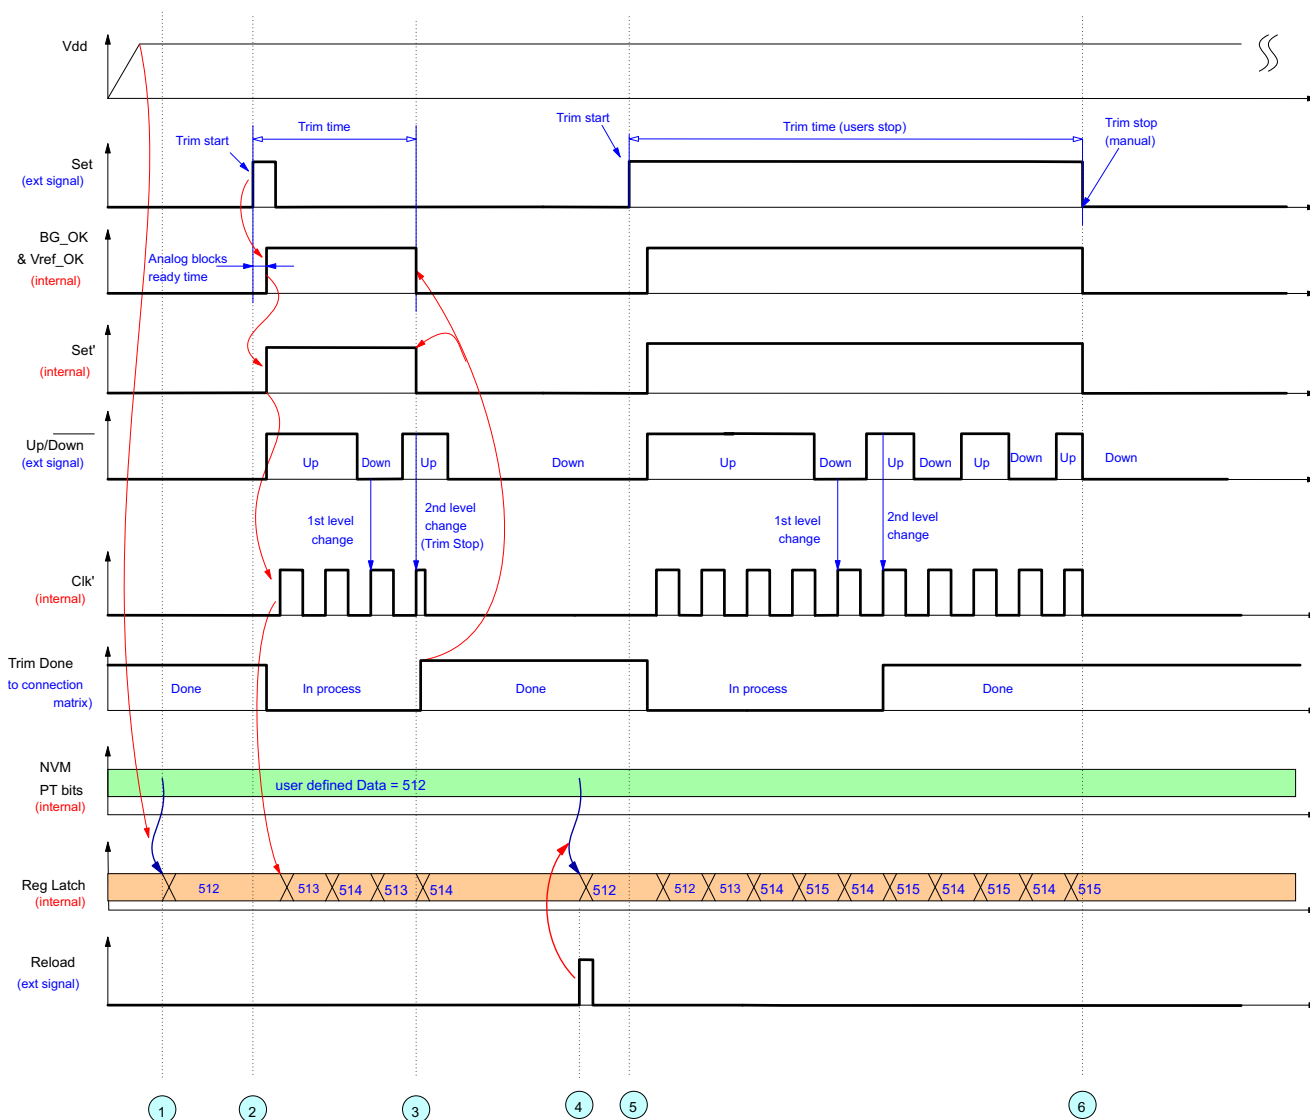
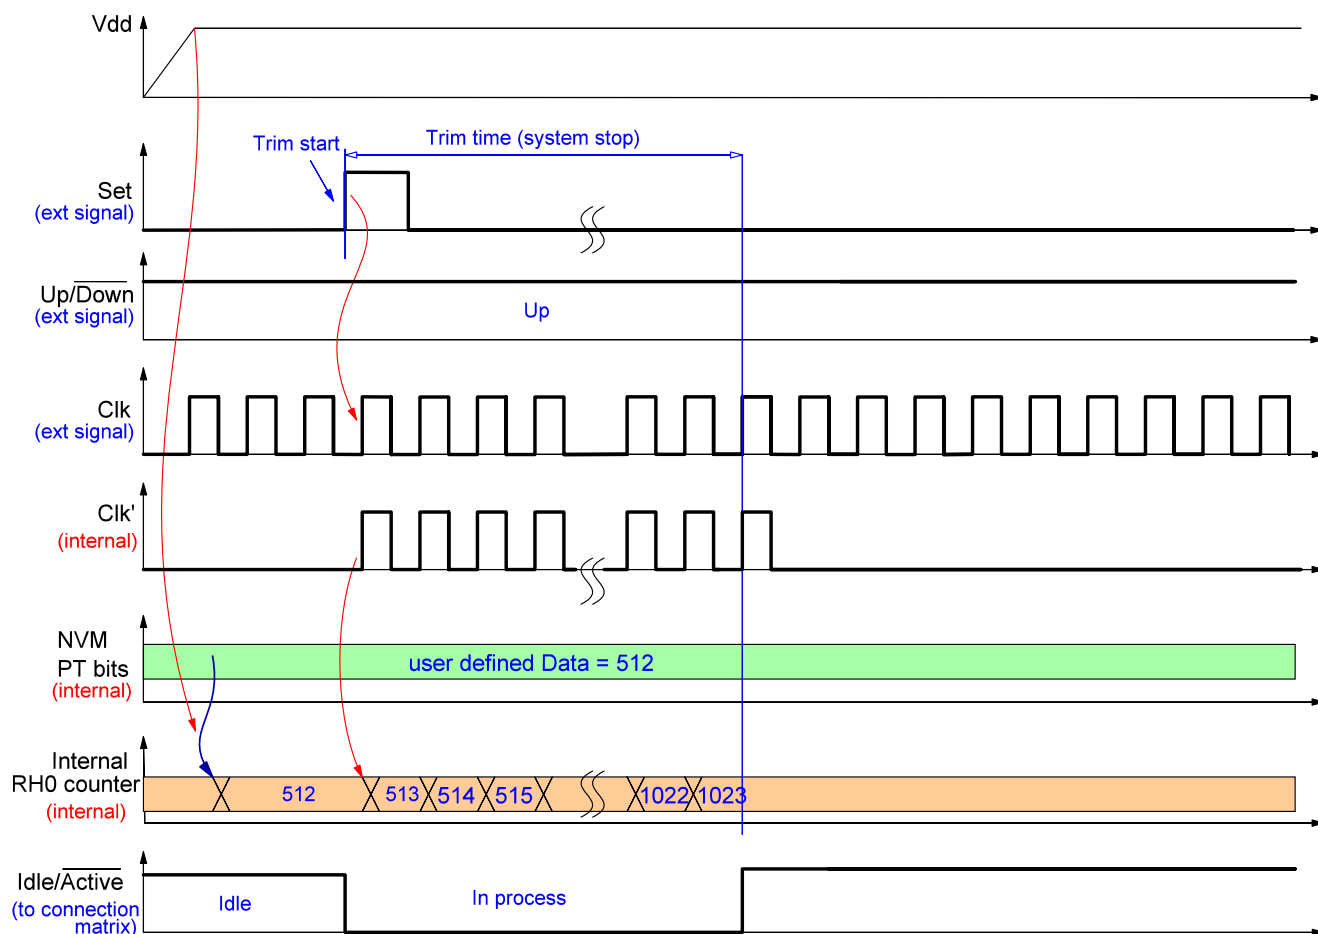
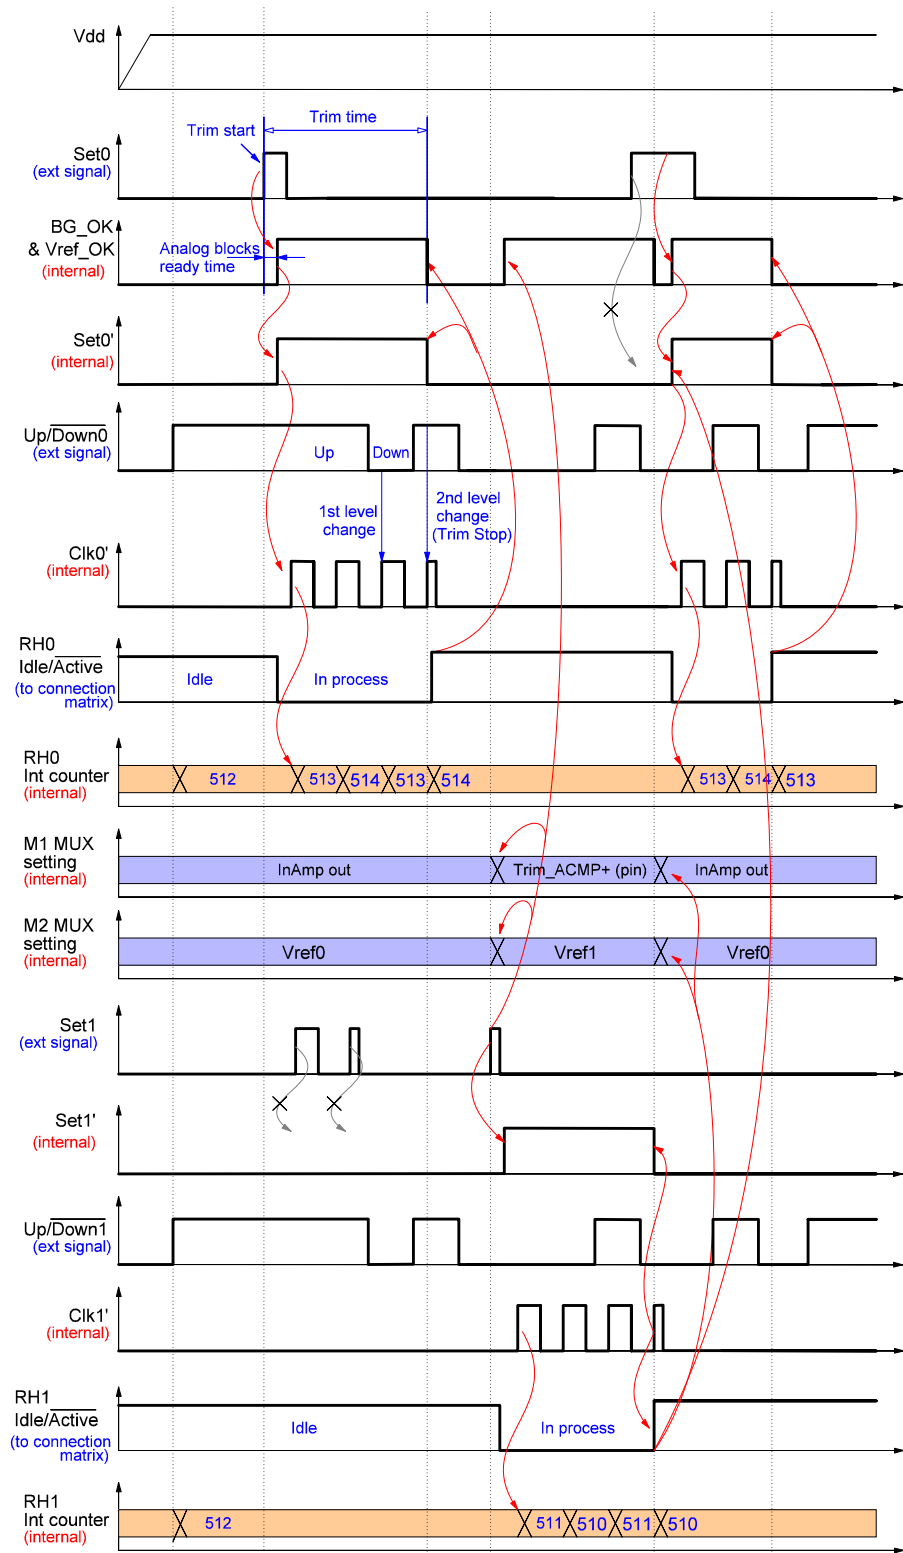

Figure 176. Example of Auto-Trim Process for a Single Rheostat
Figure 177. Example of Auto-Trim Process with External Clock Signal
Figure 178. Example of Auto-Trim Process for Two Rheostats
- 1) 2nd time change on Up/Down input at the moment of rising edge on Clock input (see Figure 176).
- 3) the value of rheostat reaches its minimum (0).
The detailed flow of Auto-Trim process is shown in Figure 176, Figure 177, Figure 178.
The key events of the Auto-Trim process are the following (see Figure 176):
If the Set input signal is shorter than the trim time, the Auto-Trim process stops automatically after a stop condition occurs (event 3, Figure 176). However, if a stop condition comes and High logic level holds on the Set input, the rheostat value will be switched near the set point until a Low level on the Set input occurs (event 7, Figure 176). Note that the Idle/Active signal changes its level to High (Auto-Trim is done) even if the user keeps a High logic level at the Set input.
Figure 177 shows a similar Auto-Trim example. The only difference is that the user defined clock source as “External clock” from connection matrix. The clock pulses are present at the Clock input all the time, but have
Figure 178 shows Auto-Trim process flow for two rheostats.